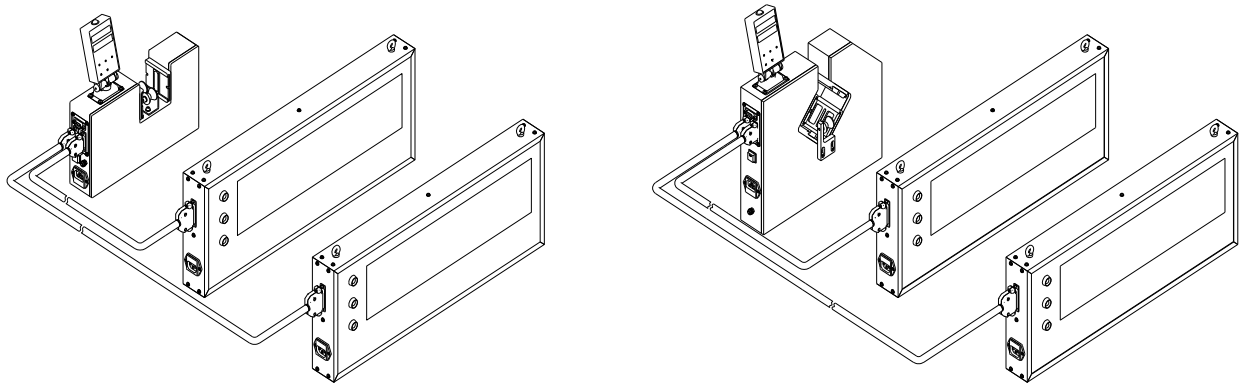

Figure 3-5
3.3.4 Synchronized data channel is applied to be connected with remote displayer to display data in long distance with transmission speed up to 1MB/s and distance of 300 m. The connecting method is indicated by Figure 3-5.